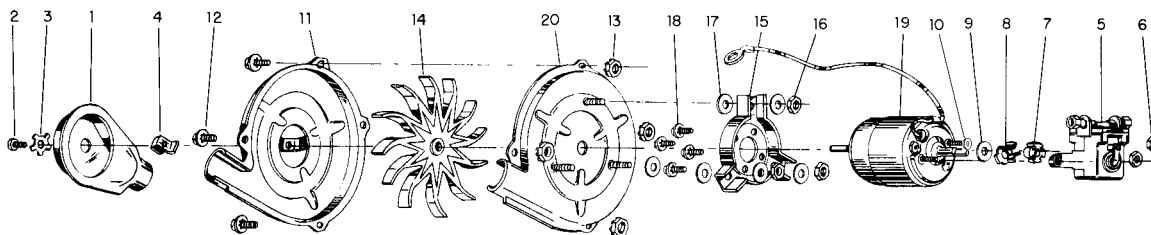
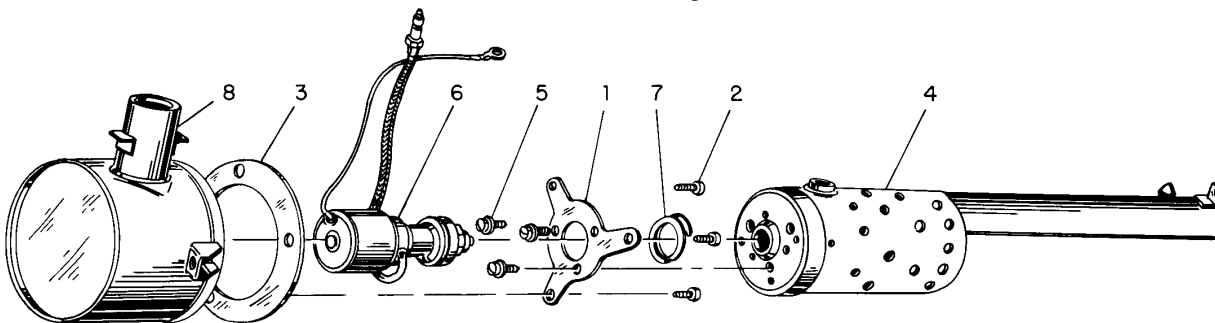

Figure 9 - Combustion Air Blower Assembly (All Models)
Figure 10 - Burner Assembly
## COMBUSTION AIR BLOWER AND FUEL PUMP DISASSEMBLY (See Figure 9)
## BURNER DISASSEMBLY (See Figure 10)
13. Combustion Air Blower (See Figure 9). Clean the inlet adapter (1), housings (11 and 20), fan
(14), and outside of motor (19) with cleaning solvent. Inspect the two connectors (8). Discard the connectors if they are bent or broken. Install a new coupling (7) at each overhaul.
15. Burner Assembly (See Figure 10). Clean inside and outside of mixer assembly (4) with a wire brush, and blow out with compressed air (or sandblast, if available). Inspect burner cap (8) for dents, and clean out carbon deposits, if any.
2. Burner Assembly (See Figure 10). Test assembled nozzle holder and fuel line assembly, as directed in Section V, before reassembly. Reassemble burner in reverse order of index numbers in Figure 7, making sure the retaining ring (7) is securely seated in the groove of the nozzle holder (6).
**CAUTION:** Do not overtighten screws (5) mounting nozzle holder to burner. Before tightening these screws, the nozzle holder should be rotated so that the fuel line is on the same side of the mixer as the spark plug and parallel to the centerline of the spark plug hole.
3. Combustion Air Blower (See Figure 9). Reassemble the combustion air blower in reverse order of index numbers in Figure 9, using a new rubber coupling (7). Note that connectors (8) on